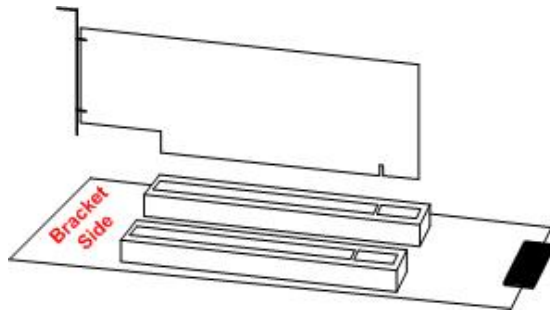

Figure 7: Inserting add-in card into PCI Flex Adapter
- Locate your expansion add-in card such way that its bracket will be on the same side as bracket side of PCI Flex Adapter (opposite from black power Molex connector) (see Figure 7). **CAUTION:** If your add-in card has not bracket connected to it, be sure that you properly detect right direction for your add-in card.